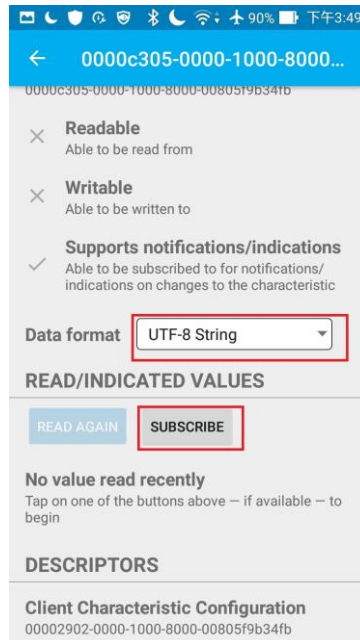

Figure 3-14 Read string from FPGA
- As shown in Figure 3-14, choose the Data format to “UTF-8 String” and select the “SUBSCRIBE” in the READ/INDICATED VALES.